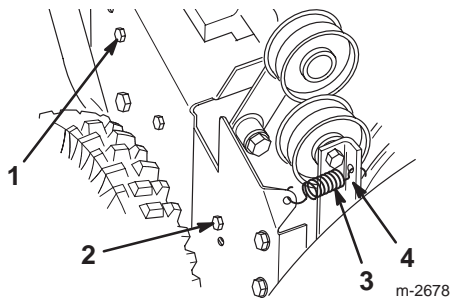

Figure 24
2. Bolt (3)
4. Loosen the auger brake arm assembly by loosening the rearmost screw and removing the front screw (Fig. 24).
5. Remove the idler pulley spring (Fig. 24). Let the brake arm assembly hang free but out of the way.
4. Loosen the auger brake arm assembly by loosening the rearmost screw and removing the front screw that fasten the auger brake arm assembly to the frame (Fig. 24).
5. Remove the idler pulley spring (Fig. 24). Let the brake arm assembly to hang free but out of the way.